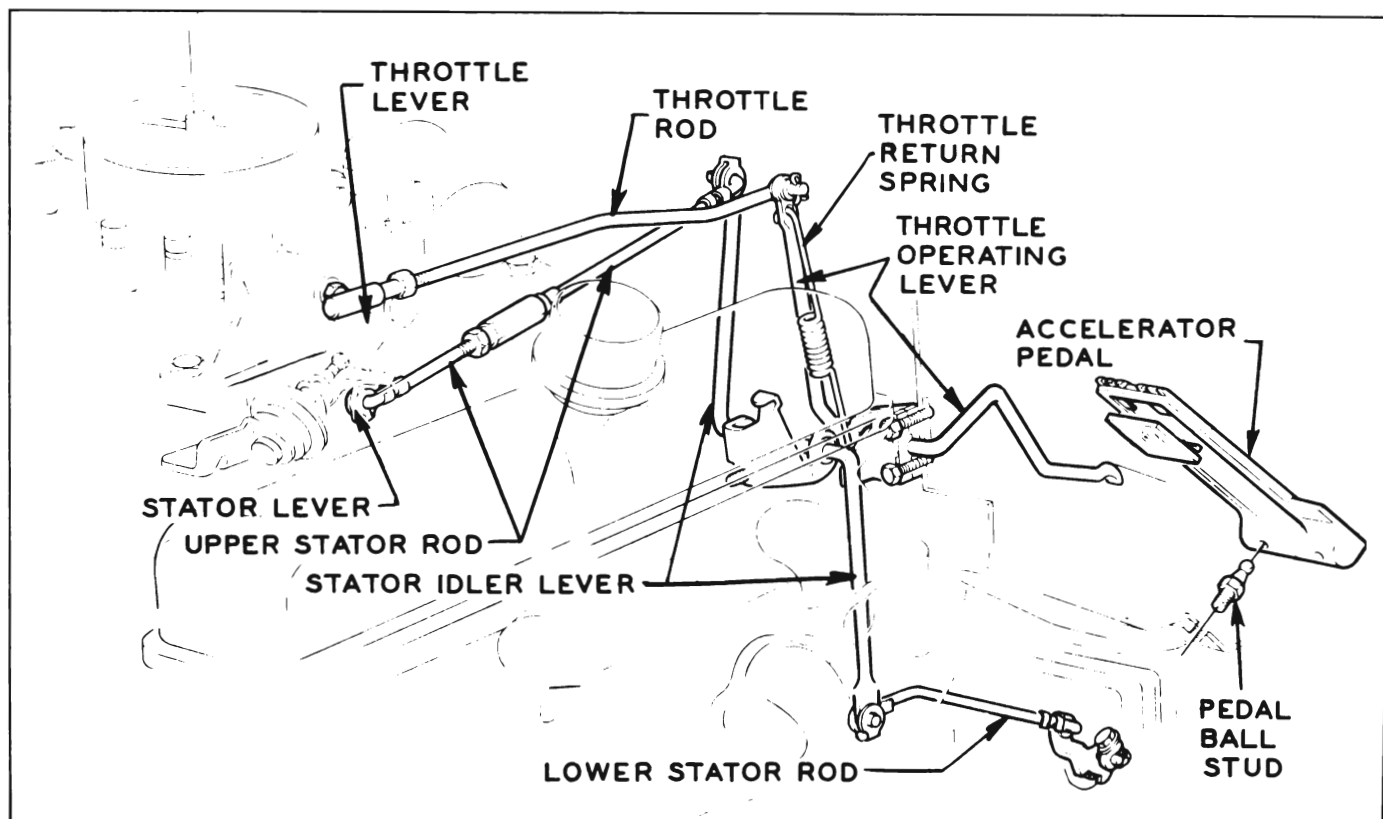

Figure 3-10—Throttle and Stator Control Linkage
4. Disconnect throttle rod from throttle operating lever. See Figure 3-10.